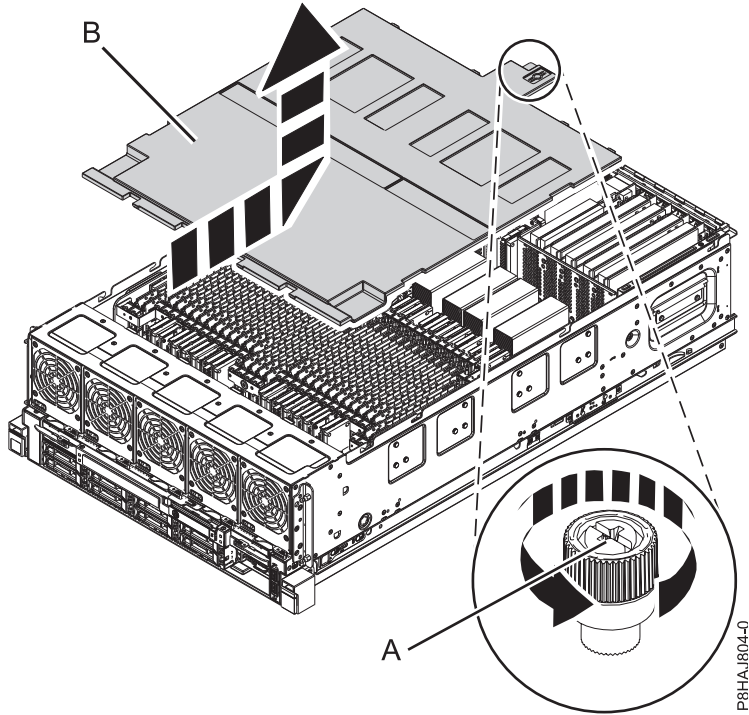

Figure 12. Removing the safety cover
2. Loosen the thumbscrew (A) located at the rear of the cover, by turning it in the direction shown in Figure 12 on page 32.
3. Slide the safety cover (B) toward the rear of the system. When the front of the cover has cleared the upper frame ledge, lift the cover up and off the system.